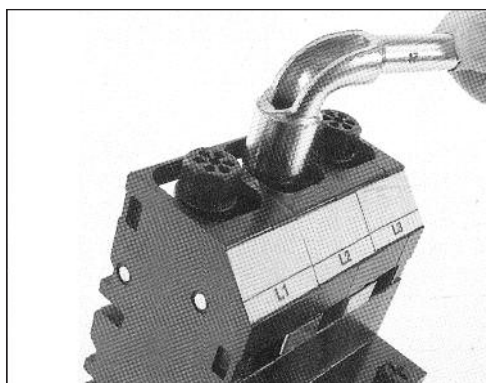

Fig 2
- a Tighten shear head bolts on cassette using a 17mm A/F socket or ring spanner (Fig 2).